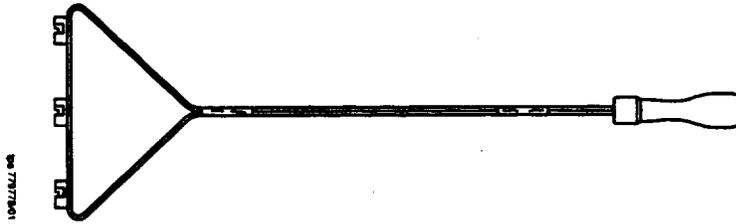

Figure 21. KS-21345, L2 Block Removal Tool
3.01 The KS-21345, L2 block removal tool (Comcode 403205008, Figure 21) is a hand tool used to remove the 78C-type and 112-type connecting blocks, and the KS-21316, KS-21317, KS-21318, and KS-21325 test talk panels from **COSMIC** frames. One end of the tool has three sets of offset wedge blocks which are spaced approximately 2-1/2 inches (64 mm) apart and mate with the retaining tabs on the connector blocks. The other end of the tool is equipped with a wooden handle. This tool is used to remove blocks from the rear of the frame.